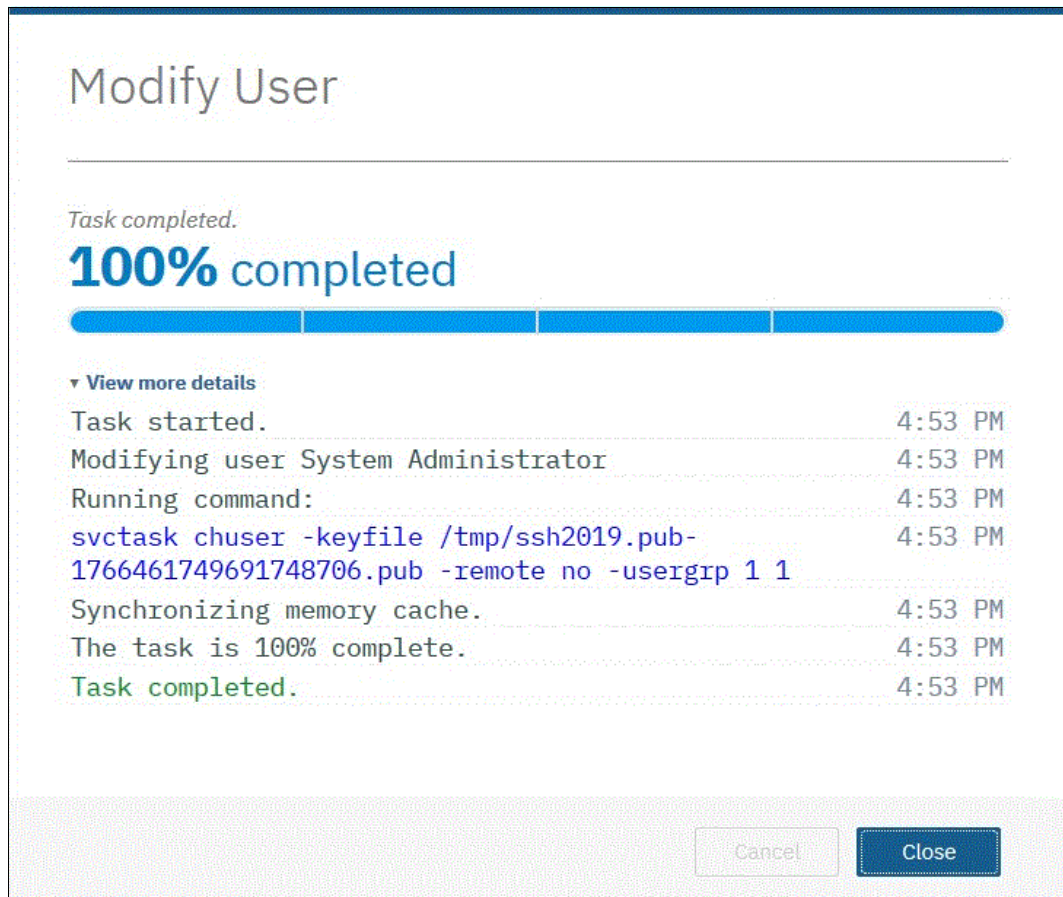

Figure C-6 Confirming the SSH key upload
- Click **OK** and the key is uploaded, as shown in Figure C-6.